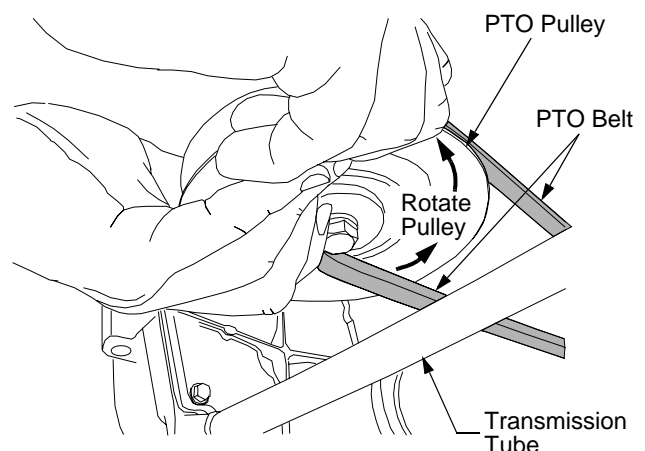

Figure 29
- Pull the right side of the belt rearward and place the narrow V side of the belt into the right/front side of the PTO pulley. See Figure 29.
- While holding the belt and pulley together, rotate the pulley to the left (See Figure 29). Continue holding and rotating the pulley and belt until the belt is fully rolled into the PTO pulley. **NOTE:** If using the left side of the belt, turn the pulley to the right.